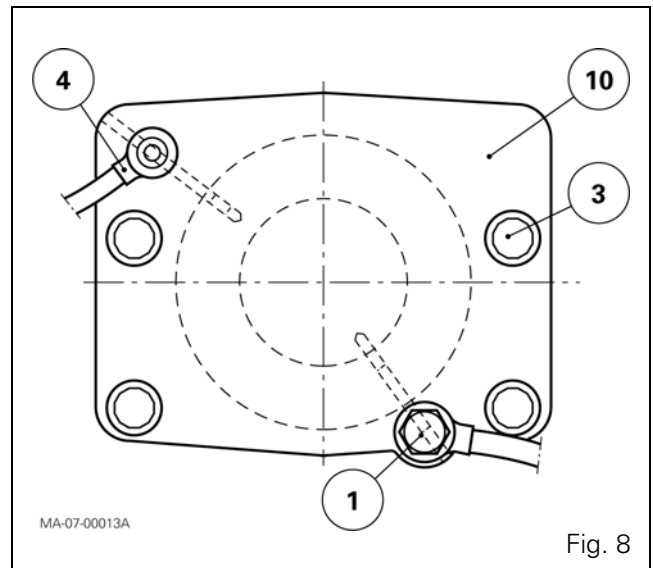
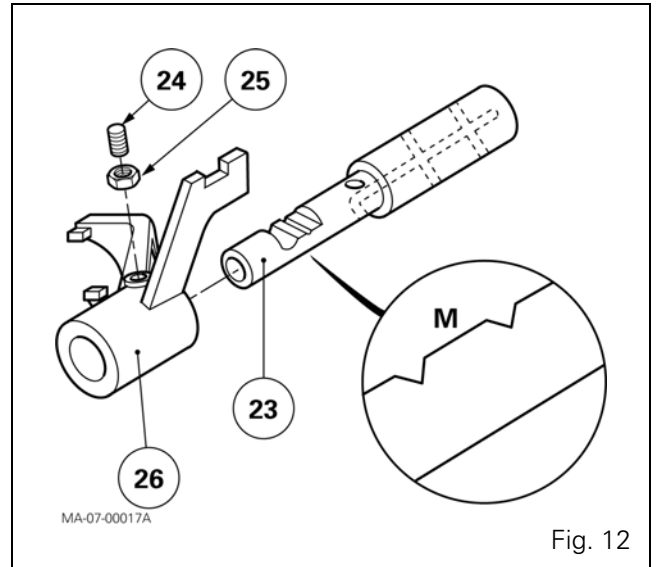

Fig. 8
Fig. 12
61. Disconnect the power take-off brake supply pipe (1) (Fig. 8).
62. Remove lubricating pipe (4) (Fig. 8).
63. Take the screws (3) out of the cover (10) and remove it (Fig. 8).
64. Take off nut (25) and locking screw (24) from the fork (26).
78. Refit the shaft (2) and the coupler sleeve (31) (if disassembled).
79. Smear the screw (27) with Loctite 221 and tighten (if disassembled).
80. Refit the cone bearing (4). Position the pinion (13) prepared with the shaft (35). Place the coupler pinion (34), the needle bearing (28), the washer (33), and the circlip (32). Push on the pinion (13). Position the washer (33). Fit the circlip (32).
81. In the pinion (18), place the spacer (19) and the needle bearings (17) (20). Position the double pinion assembly (14). Fit the washer (16) smeared with miscible grease (Amber technical or equivalent).
82. Check that the channels in the pin (23) are not obstructed. They are used for lubricating the needle bearings (17) (20) and the front bearing of the driving pinion. Slightly engage the pin (23) in order to hold the washer (16) in place. Place the washer (21) coated with miscible grease. Centre the double pinion assembly (14).
83. Definitively fit the pin (23) into the pinion assembly (14) and into the fork (26) while ensuring the correct positioning of the set screw hole (22).
84. Smear screw (22) with Loctite 542 and tighten to a torque of 28 - 43 Nm.
85. Clean the cover (10) mating face.
87. Check for the presence of the bearing cup (8). Tighten the screws (3) to 130 -170 Nm (Fig. 8).
88. Reconnect the pipes (1) (4) (Fig. 8).
89. Refit the screw (24) and nut (25) on the fork (26).
90. Adjust the locking of the fork (26) (Fig. 12):
- Position the fork (26), with the locking screw (24) on flat "M" of pin (23) (between the two locking grooves), tighten the screw to compress the ball.
- Loosen the screw by one-quarter turn. Smear the nut (25) with Loctite 241. Tighten to a torque of 15 - 20 Nm.
95. Smear the threads of the two lower screws (4) with Loctite 510. Tighten the 4 screws to a torque of 50 - 70 Nm.
97. If the screw (27) and the layshaft (2) have been removed, refit the left-hand lateralcover (see chapter 9).
117. Check for the presence of the bearing cup (8), fit the cover (10) with screws (3) and tighten to a torque of 130 - 170 Nm (Fig. 8).
118. Reconnect the pipes (1) (4) (Fig. 8).